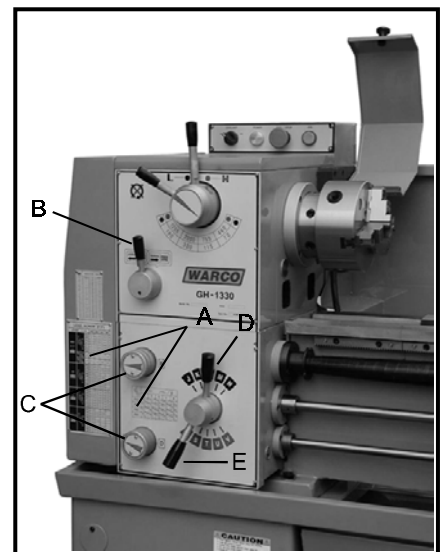

Fig. 19
1. Reference the feed and thread tables (A, Fig. 19) found on the gearbox and end cover.
2. Mover levers (B,C,D&E, Fig.19) to the appropriate detent position according to the chart.
Note: the 32T x 85T x 100T gears are installed in the end gear compartment when delivered from the factory. This combination will cover the feed chart. The 35, 42, 44, 48, 55 and 120/127 tooth gears found in the toolbox are used as indicated on feed and thread tables. (A, Fig. 19)